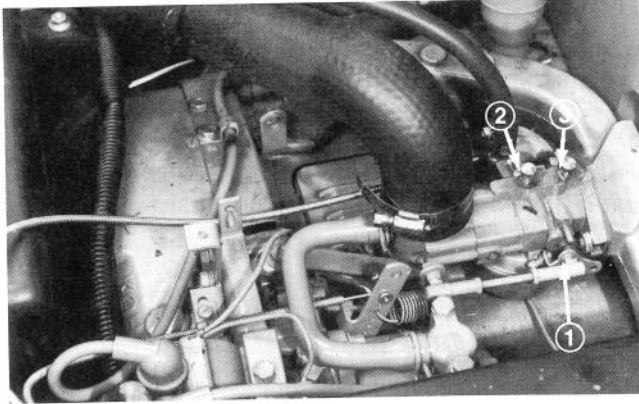

Figure 43
1. Raise cover over engine and remove oil pressure plug from top of engine (Fig. 43). Install an oil pressure gauge into the hole in the crankcase; refer to instructions outlined in Lubrication section of Kohler Engine Manual for installation instructions.
1. Bend the clip away from the main adjustment screw (Fig. 43) and turn the screw clockwise until it lightly bottoms. Turn the idle adjustment screw clockwise until it also lightly bottoms (Fig. 43).